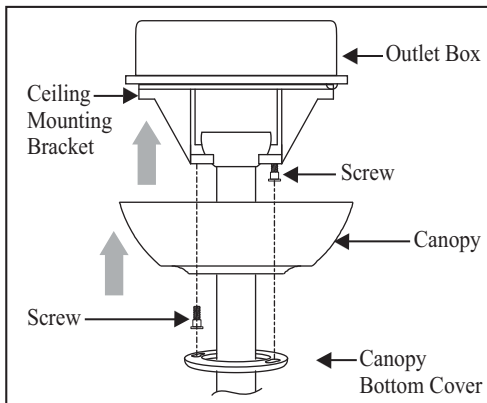

Figure 12
2. Slide the canopy up to mounting bracket and place the key on the canopy over the screw on the mounting bracket, turn canopy until it locks in place at the narrow section of the key holes. (Fig. 12)